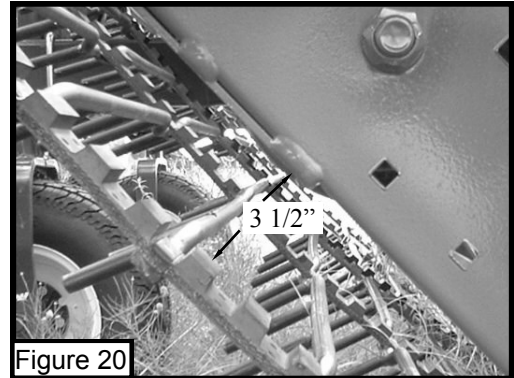

Figure 20
2. Check conveyor belt tightness approximately every 100 acres. Do not allow conveyor belt to become so loose that the drive sprocket tries to jump teeth. Running conveyor belt too tight can also cause excessive belt and sprocket wear. Readjust stretched belt to 3 1/2" dimension as shown in Figure 20. When installing a new replacement conveyor belt, adjust to 3 1/2" dimension.